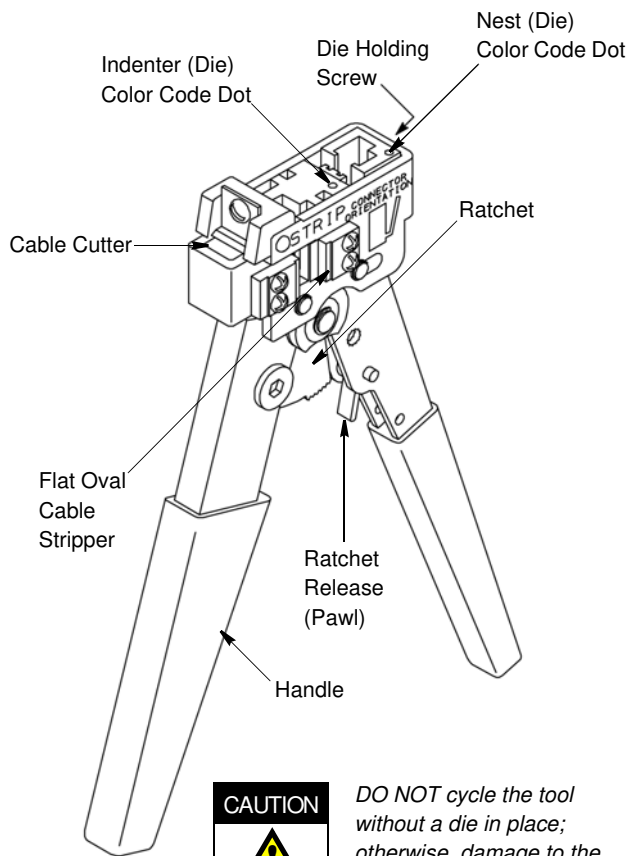

Figure 1
Modular Plug Hand Tools 231652-[ ] (shown in Figure 1) are designed to terminate modular plug connectors onto stranded or solid, shielded or unshielded flat oval cable or round cable. The tool also cuts and strips unshielded flat oval cable. Other cable must be prepared by separate tools.
2. DESCRIPTION (Figure1)